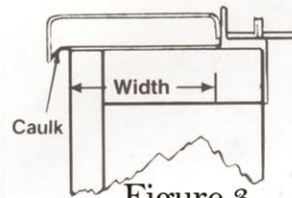

Figure 3.
Window sill can sit flush or extend past the face of the gypsum board. Exposed ends should be covered with latex caulk as shown in Figure 3.
5. Use white caulk to put a finish bead around the sides and back of window sill. Apply caulk on ends (Figure 3). See instructions on caulk tube for finishing sealing beads, and cleaning up dried caulk.